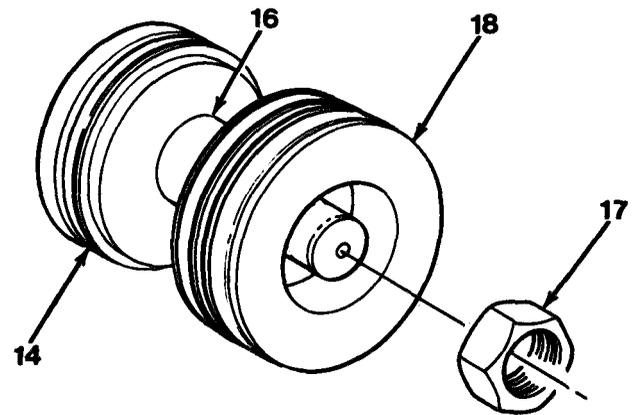
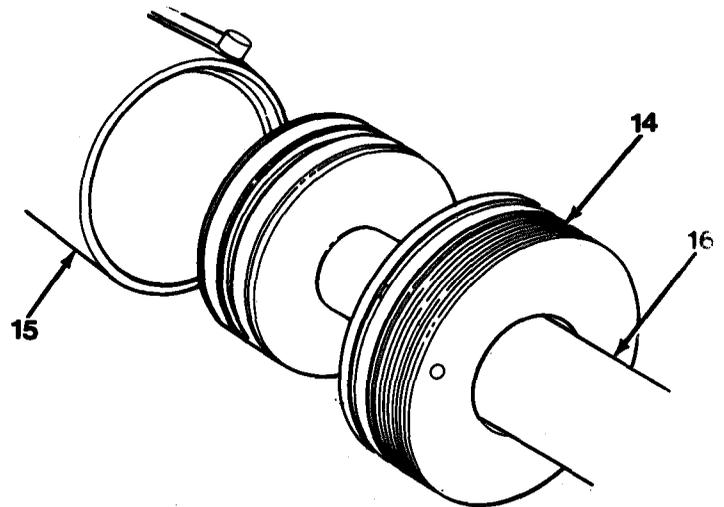

Figure 13-6
Figure 13-5
6. Install piston (18) and gland (14) on rod assembly (16, Figure 13-6).
7. Apply Loctite 277 to threads on rod assembly (16). Install nut (17) and torque to 250 lb-ft (339 N•m).
8. Install assembled rod assembly (16) in cylinder tube (15). Screw gland (14, Figure 13-5) in cylinder tube (15). Tighten with spanner wrench.
9. Push rod assembly (16) all the way into cylinder tube (15).